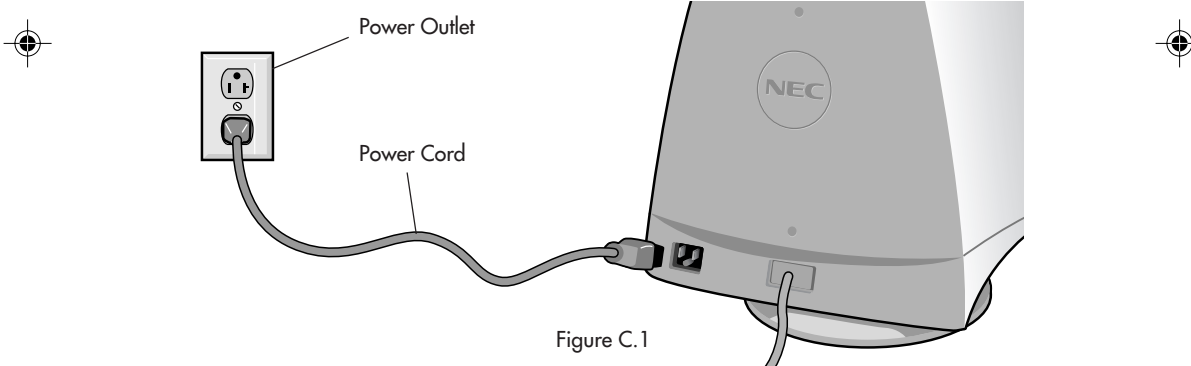

Figure C.1
**NOTE:** To obtain the Macintosh cable adapter, call NEC-Mitsubishi Electronics Display of America, Inc. at (800) 632-4662.
4. Connect one end of the power cord to the MultiSync monitor and the other end to the power outlet (**Figure C.1**).